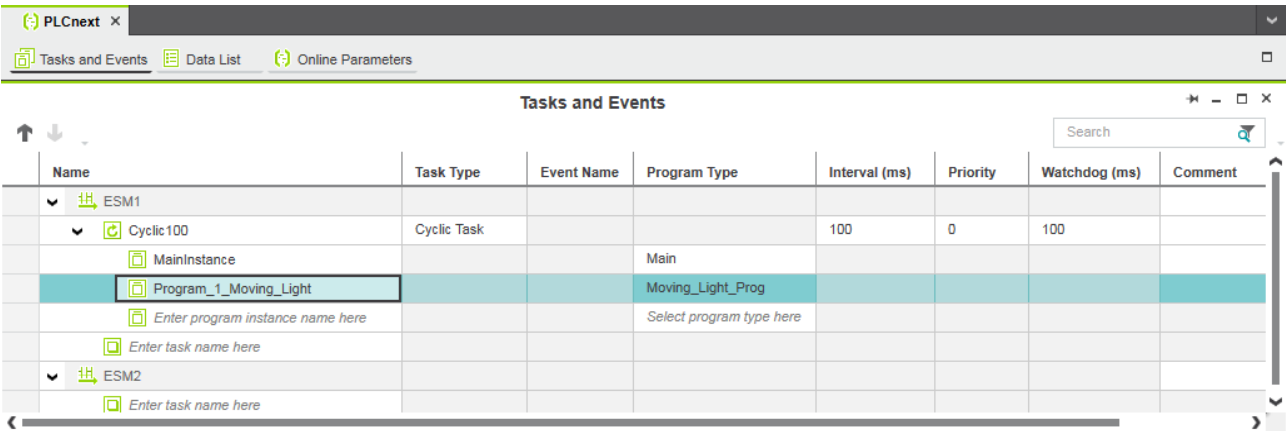

Figure 6-34 Tasks and program instances in the “Tasks and Events” editor
- In the “Name” column, enter a name for the program instance below a task in the “Enter program instance name here” input field (“Program1_Moving_Light” in the example in Figure 6-34).
- Select the program to be instantiated from the drop-down list (“Moving_Light_Prog” in the example in Figure 6-34).